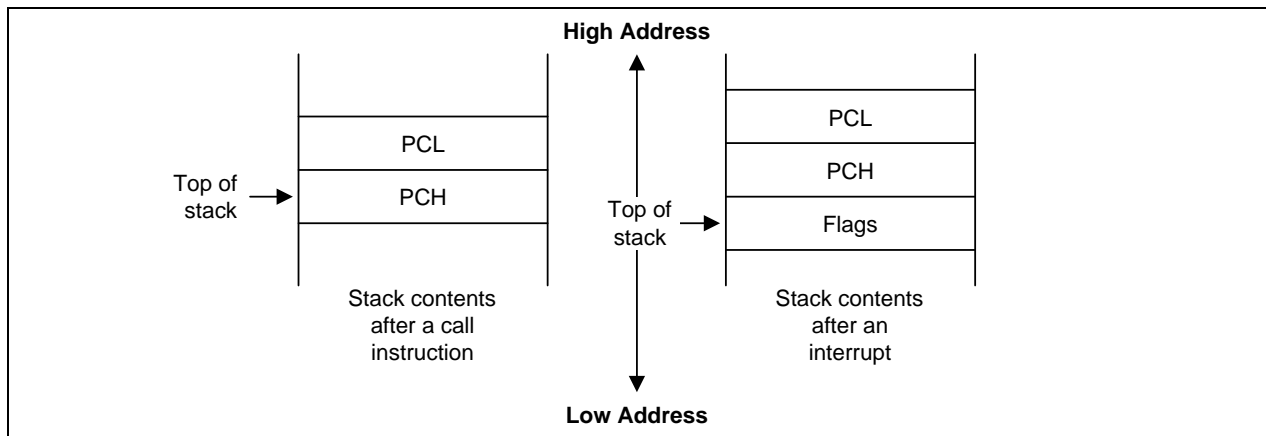

Figure 2-18. Stack Operations
Return addresses for procedure calls, interrupts, and data are stored on the stack. The contents of the PC are saved to stack by a CALL instruction and restored by the RET instruction. When an interrupt occurs, the contents of the PC and the FLAGS register are pushed to the stack. The IRET instruction then pops these values back to their original locations. The stack address value is always decreased by one before a push operation and increased by one *after* a pop operation. The stack pointer (SP) always points to the stack frame stored on the top of the stack, as shown in Figure 2-18.